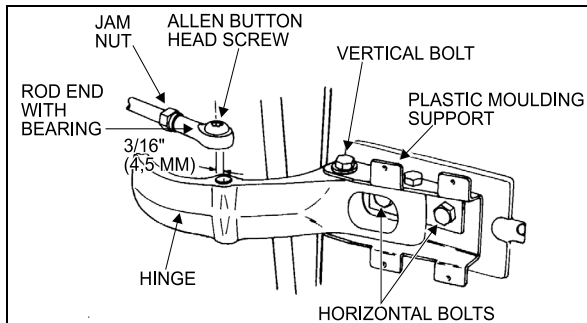

FIGURE 28: UPPER DOOR HINGE
2. Remove the Allen button head screw and the washer retaining the rod end with bearing to the upper hinge. See Figure 28.